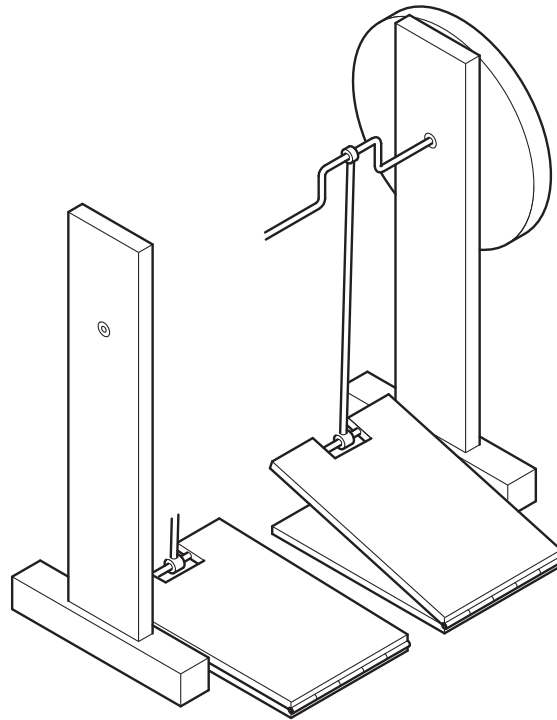

Fig. 9
- (b) (i) Complete Fig. 9 to show how a second treadle could be used to increase the power of the mechanism.